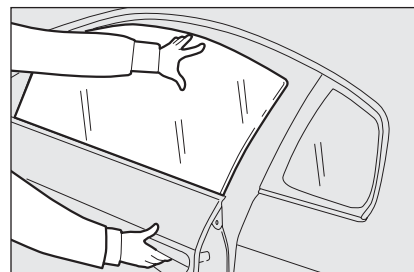

fig. 69a
**IMPORTANT** With centralised lock enabled, pull the internal opening lever of one of the doors in order to disable the lock of all the doors. If there should be no electrical supply (burnt fuse, battery disconnected, etc.) the door lock can be opened manually; now being that the windows cannot be opened automatically, in order to open or lock the door with the window closed, press on the window towards the inside of the vehicle (refer to **fig. 69a**), in order to allow the window to pass from the molding.